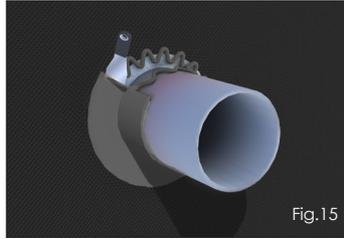

Fig. 15
3. Opt 1: Apply a thick bead of liquid-applied flashing around the penetration and smooth with a putty knife ensuring a min. 100 -150mm spread making contact with the penetration, and membrane (Fig. 15 and 17).